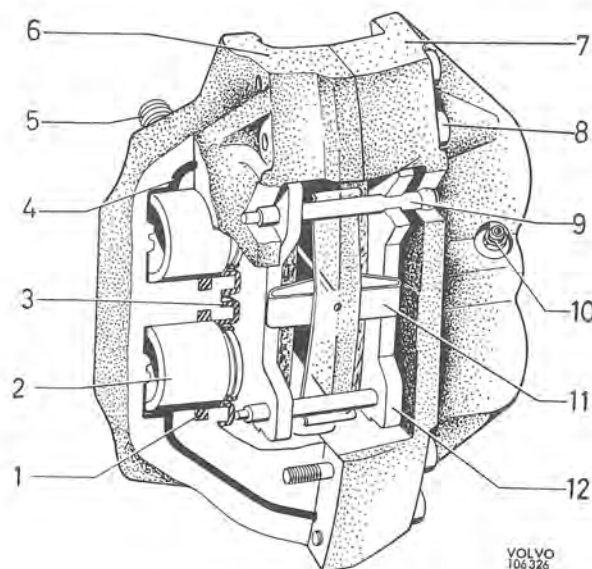

Fig. 5-8. Front wheel brake caliper
Mounted on the stub axle is the front wheel caliper (2) which houses the wheel unit cylinders and brake pads. The front wheel brake caliper consists of a housing in two halves (6 and 7, Fig. 5-8) bolted together and located on either side of the brake disc. Each half contains two cylinders and pistons. The upper cylinder is completely separated from the lower one, but both upper and lower cylinder are each connected through channels to the corresponding cylinder in the other half. The function of the sealing rings (1) is partly to prevent brake fluid from oozing out and partly to return the pistons to the rest position after braking. Rubber dust covers (3) prevent dirt from entering. Each sealing ring has a square section and presses against the piston from the slightly oblique